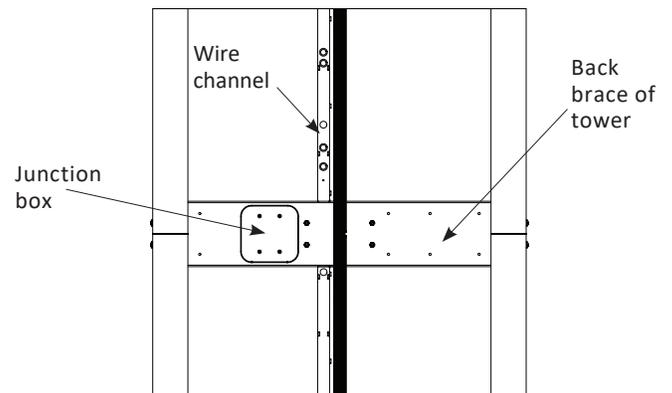

Figure 4-5
4. Connect a temporary cord to a grounded 20A extension cord and route down through the back of the center wire channel to the bottom of the lift and out to a temporary 120V AC outlet. *See Figure 4-5.*